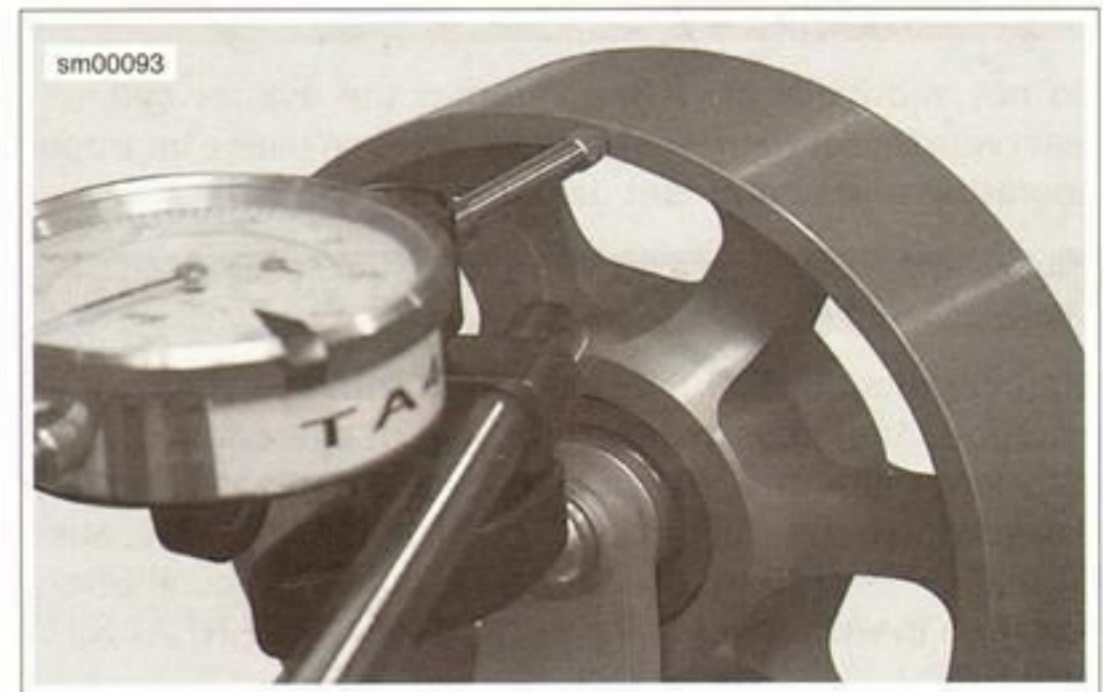

Figure 1-18. Measuring Lateral Side Play on Idler Pulley
2. See Figure 1-18. Measure idler pulley runout with a dial indicator. Refer to Table 1-6.